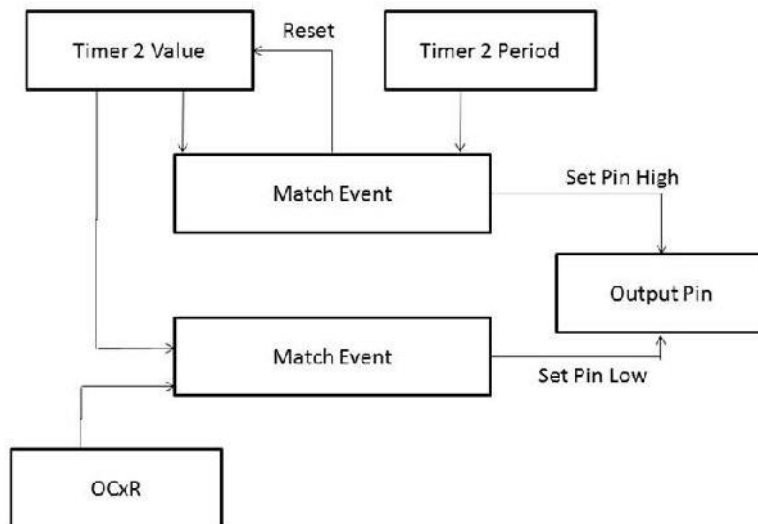

Figure 3: Flow chart of the input capture process
The output segment of the PWM interface was the first designed. The PIC24FJ256GB110 has Output Compare (OC) modules that are designed specifically for this purpose. To function properly, these modules first need to be mapped to pins using the Peripheral Pin Select (PPS) feature of the microcontroller. Then, they must be configured by selecting a timer, a sync source, the specific function required (in our case, edge aligned PWM), and finally, setting the synchronous mode. Next, the timer must be configured. This requires writing the period value to the period register, setting the prescale value, enabling the timer's interrupt and clearing the flag, and turning the timer on. We selected Timer2 to provide the clock source for all OC modules. With the system clock running at 32 MHz, the timer increments at 16 Mhz ($F_{osc}/2$). Thus, to achieve a 54 Hz signal, the prescale value was set at 64, and the period register was set with a value of 4629. The timer then interrupts when the timer register and period register generate a match. This interrupt triggers the timer value to reset to 0, and the OC module to set its pin high and remain high until the value set in its 16 bit register (called OCxR) is matched with the timer value. By writing to the OCxR register, one can change the pulse width. This is illustrated in Figure 3. The code for implementing